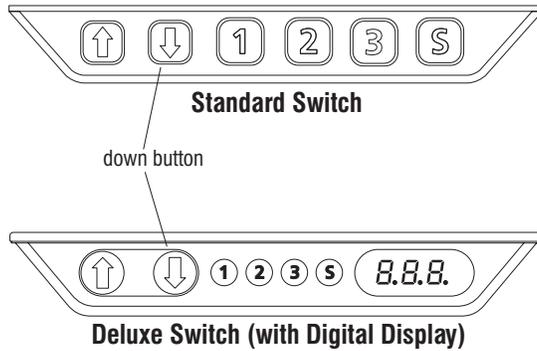
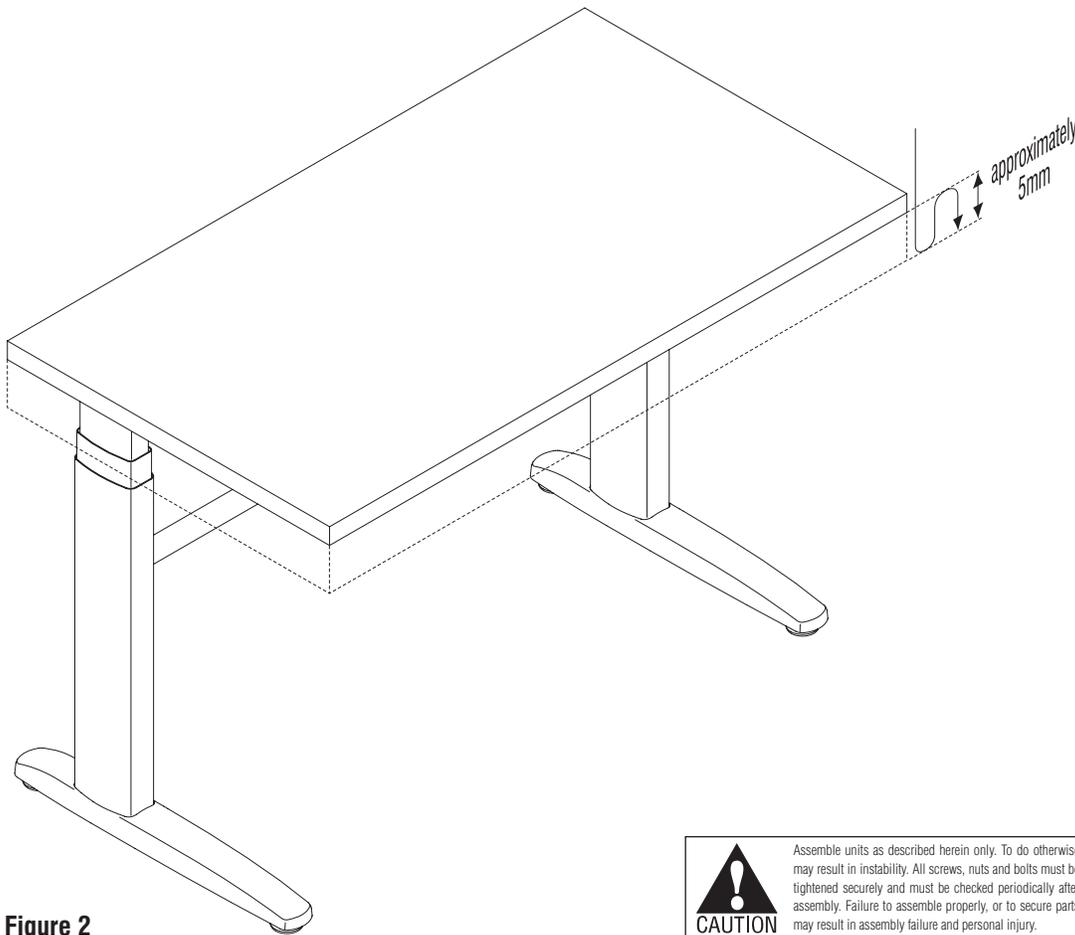

Figure 1
Figure 2
1. Press and hold the Down button on the control switch (Figure 1). The unit will lower to the end stop and stop moving. Release the down arrow. Press the down arrow again, the unit will then raise approximately 5mm, and then slowly lower to the end stop again. Release the button only when the unit has stopped moving completely (Figure 2).
Press and hold the Down button on the control switch (Figure 1). The unit will lower to the end stop and stop moving. Release the down arrow. Press the down arrow again, the unit will then raise approximately 5mm, and then slowly lower to the end stop again. Release the button only when the unit has stopped moving completely (Figure 2).